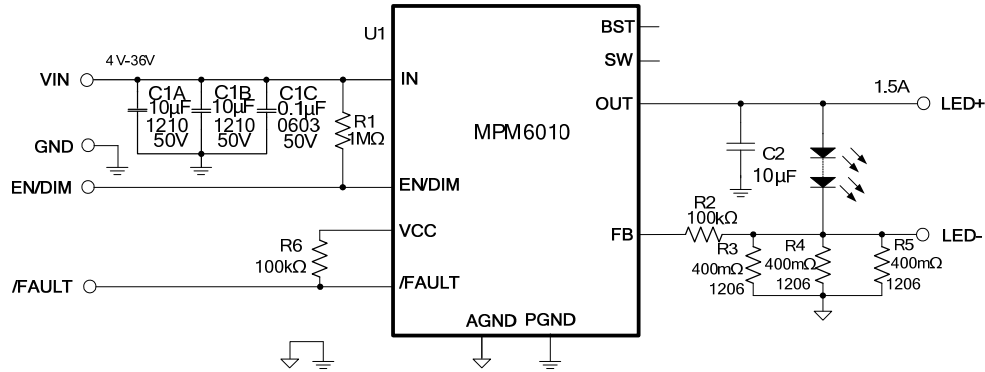

Figure 8: Typical Application Circuit for $I_{LED} = 1.5A$
7) The recommended layout is based on Figure 8.